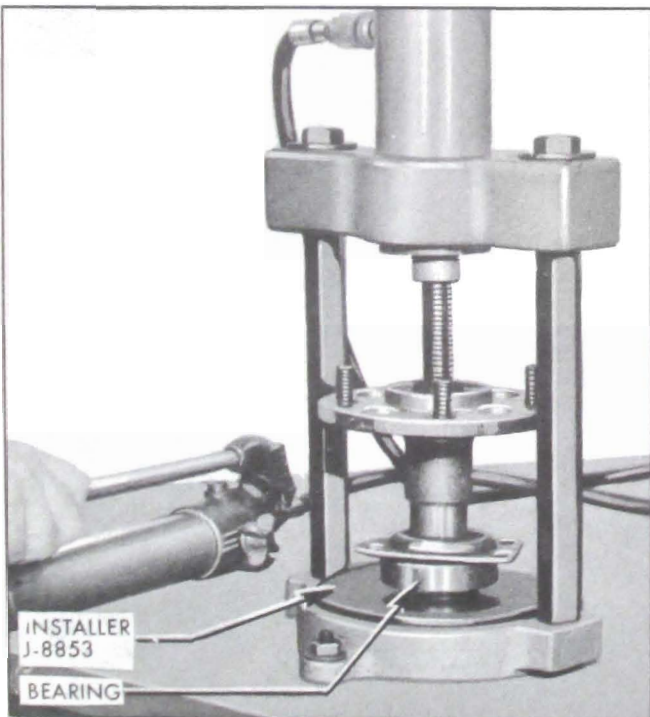

Figure 6-7—Installing Axle Shaft Bearing
3. Press new axle shaft bearing against shoulder on axle shaft using Installer J-8853 with Holder J-6407. See Figure 6-7. **CAUTION:** Retainer plate which retains bearing in housing must be on axle shaft before bearing is installed; retainer gasket can be installed after bearing.